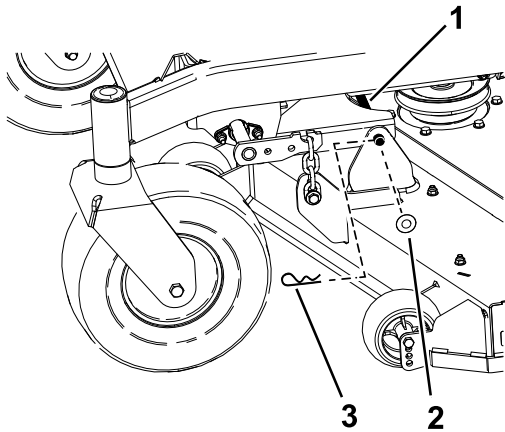

Figure 66
5. Remove the hairpin cotter and washer securing the link pin to the frame and deck, and remove the link bar (Figure 66).
9. Secure the link pin with the hairpin cotters and washers removed previously (Figure 66).